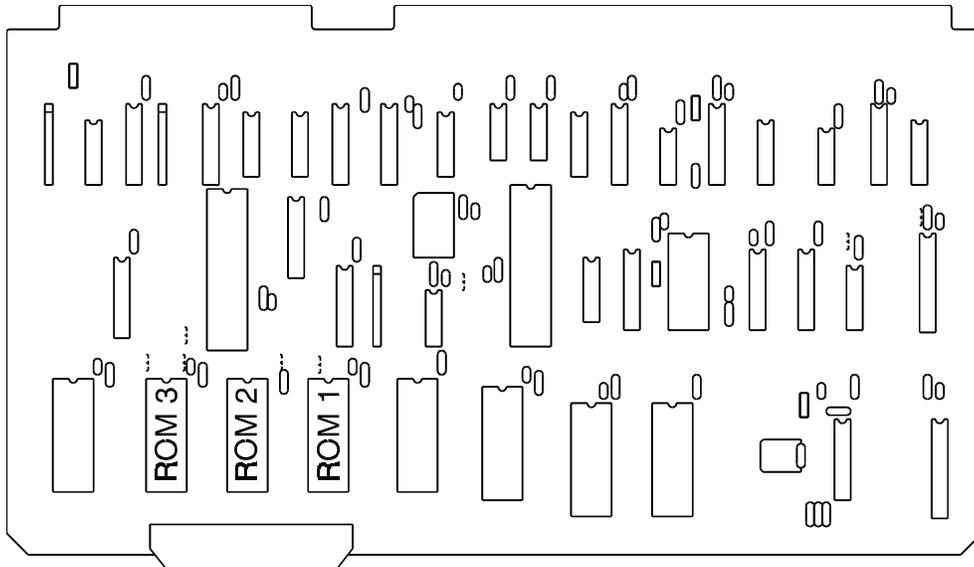

Figure 2-3. CPU Board
- Lay CPU board (Figure 2-3) on a flat surface. Components of the CPU board are sensitive to static. Do not lay the board on carpeting, plastic (e.g., bubble wrap), or other surfaces that build up static charge.
- g) Properly align new ROM1 on the socket and press in. It is imperative that the chip oriented as shown in Figure 2-3 (notched end away from the board edge with the ribbon cable connector). Be careful not to bend the legs and ensure that all the legs are inserted into the socket.
2.3 Personal Computer (PC) Installation